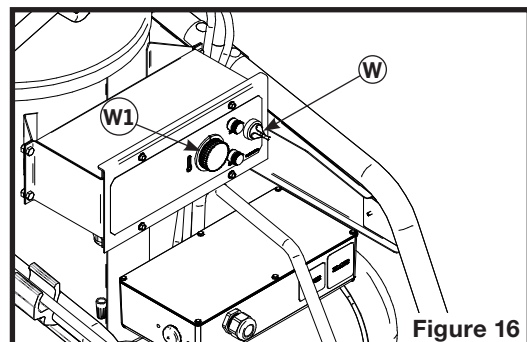

Figure 16
4. Connect the attachment plug to a proper electrical source. Circuit breaker for this source should match with the washer nominal current. If an extension cord is used, it should be the same size as the washer power cord or larger if washer cord and extension cord total length exceeds 35 ft. Turn pump switch (W in figure 16) to cold water position.
3. Turn the switch (W on figure 16) to hot water position.
4. Adjust the thermostat (W1 on figure 16) to desired temperature.